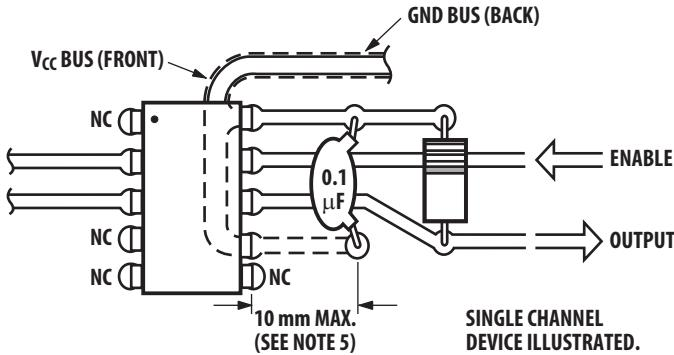

Figure 15. Recommended printed circuit board layout.
2. By passing of power supply line is required, with a  $0.1\mu\text{F}$  ceramic disc capacitor adjacent to each optocoupler as illustrated in Figure 15. Total lead length between both ends of the capacitor and the isolator pins should not exceed 20mm.